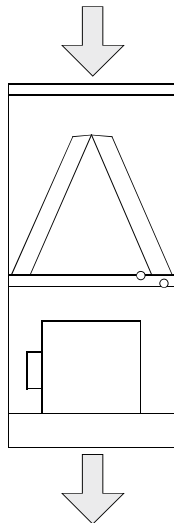

Figure 2 - Bottomflow GA
5. Install the 'A' coil into the upper section of the cabinet as pictured in Figure 2. Attach the stiffener bracket into the two holes provided in the cabinet so that the bracket is in front of the coil. The horizontal drain pan is not needed and must be discarded. Plug the 2 drain hole openings in the access panel with the plugs provided.